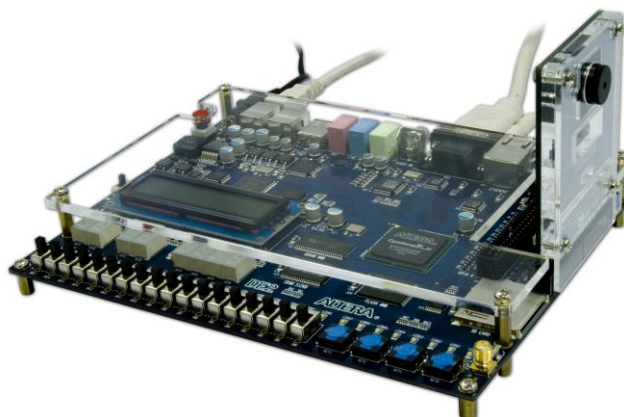

Figure 3-5 The Connection Setup for DE2 users
1. Ensure the connection is set correctly as shown in **Figure 3-5**. Make sure the D5M is connected to **JP2 (GPIO 1)** of the DE2 board.